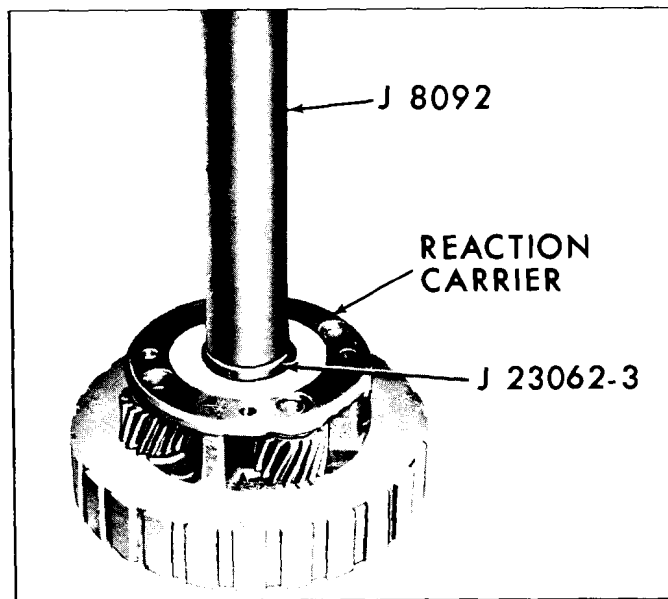

Fig. 7G-121 Removing or Installing Reaction Carrier Bushing
- b. Using Bushing Tool J 23062-3 and Drive Handle J 8092, install new bushing flush to .010" below inside face (Fig. 7G-121).